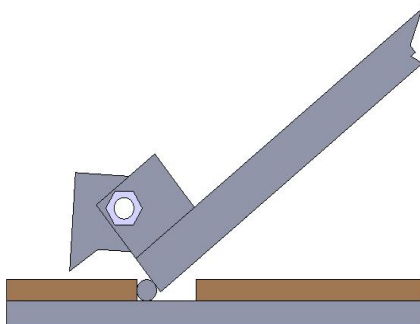
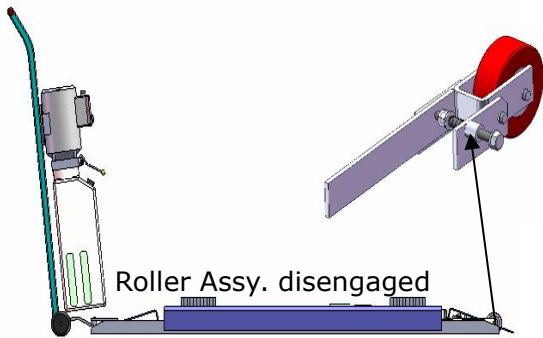

Fig.13
Fig. 15
2. The roller must be disengage when lifting vehicle (**See Fig.15**). To raise and lock the lift: Press the button up till the lift is raised to the required height and the locks are in engaged (**See Fig.13**), then push release handle of the power unit, the lift would be locked.
5. Move lift: Pull up roller bracket, lock two roller to the lift with roller shaft. (See Fig. 15& 16). Moving the lift by the power unit stand.